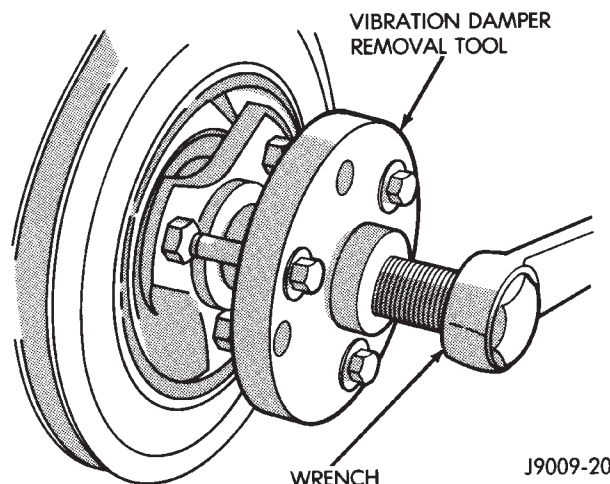

Fig. 39 Vibration Damper Removal Tool 7697
(1) Disconnect negative cable from battery.
(2) Remove the serpentine drive belt and fan shroud.
(3) Remove the vibration damper retaining bolt and washer.
(4) Use Vibration Damper Removal Tool 7697 to remove the damper from the crankshaft (Fig. 39).